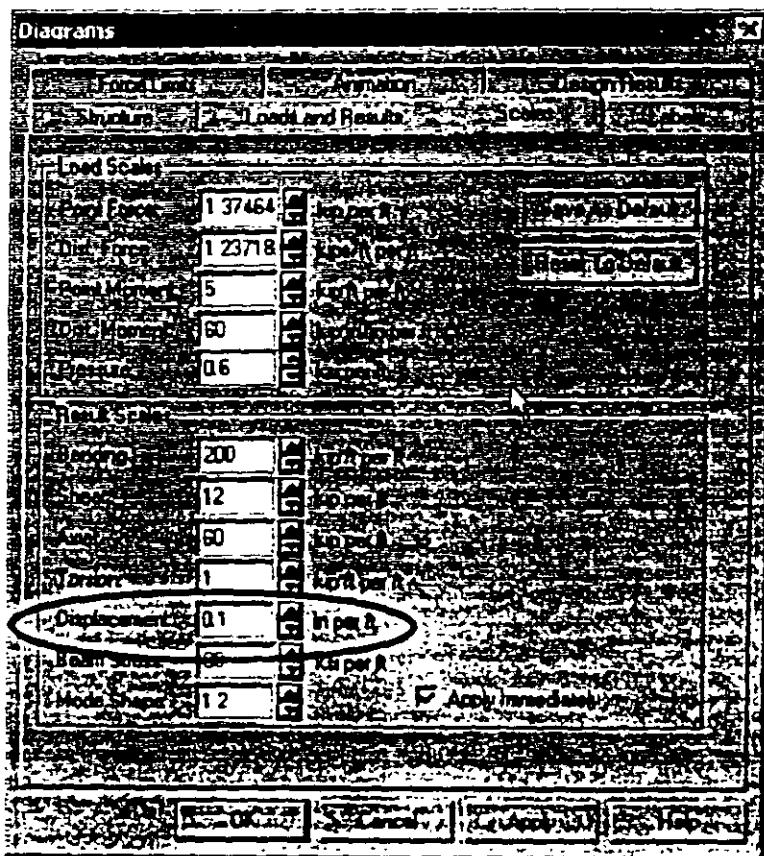

Figure 3.105
2. Check on the "Apply immediately" box to see the effects of the scaling immediately. In the *Displacement* field, specify a smaller number than what is currently listed. The deflection diagram should now be larger. In Figure 3.105, the number provided is 0.1 in per ft. This means that for every 0.1 inches of deflection, the program will scale it to 1 ft. Click on *OK* to close the box.